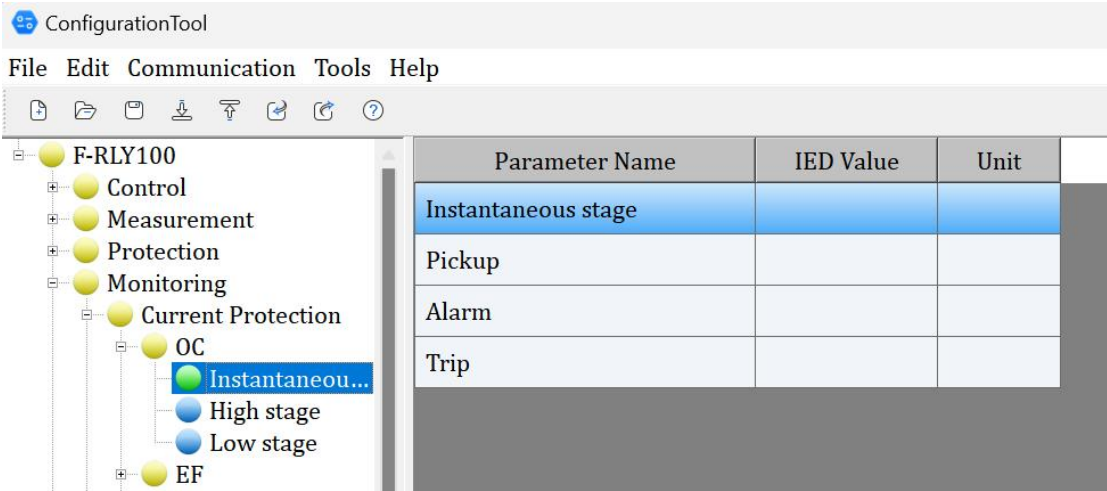

Figure 44
- 4) Click the “Monitoring” and status window will popup. (Figure 44)